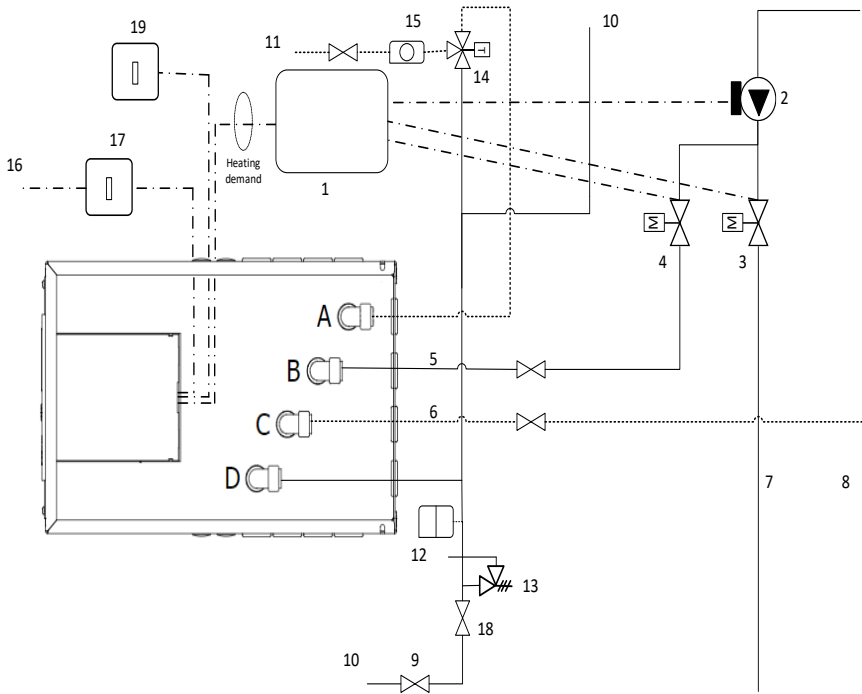

Figure 12.1: Example wiring option 1 schematic (see Figure 3 for piping and electrical options available)
- Run and connect 3 Core mains power supply cable (16A, minimum 2.5mm² CSA) from the local 2-pole isolator to the Heat Battery controller (Figures 12.1 and 12.2).